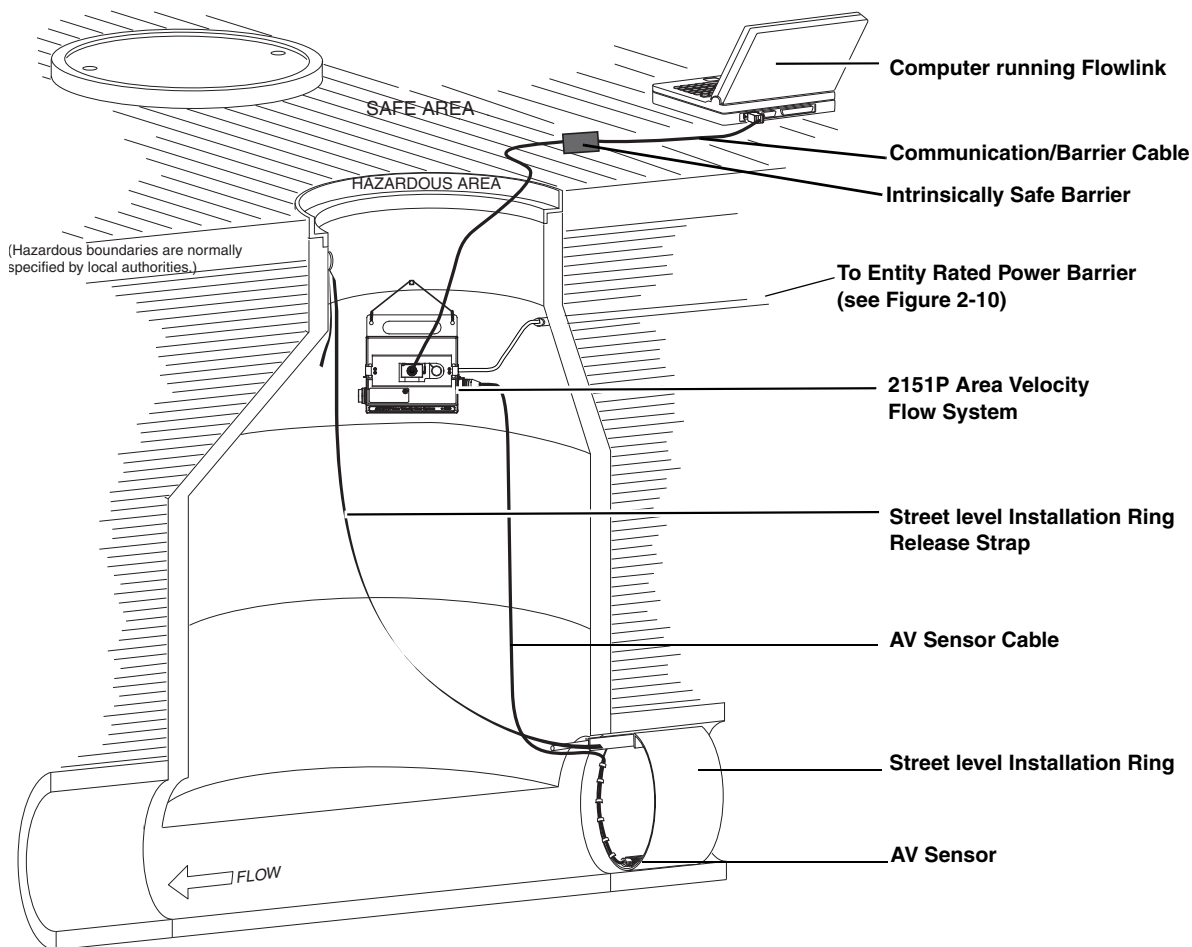
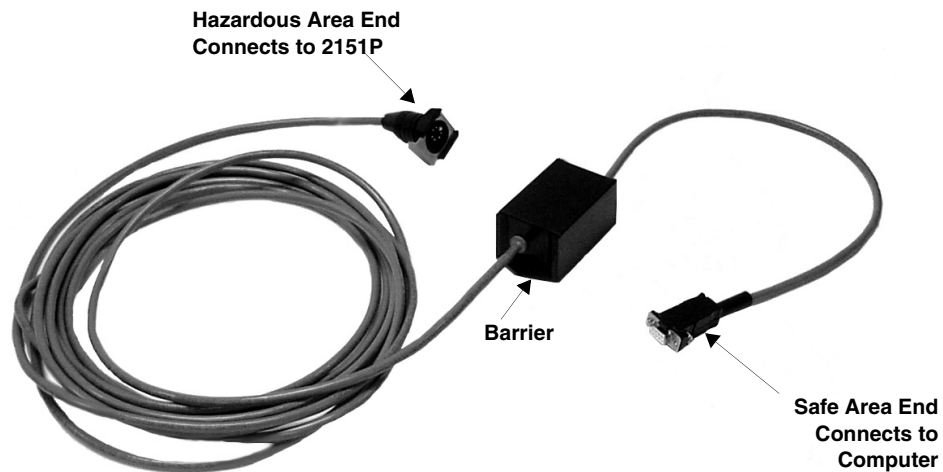
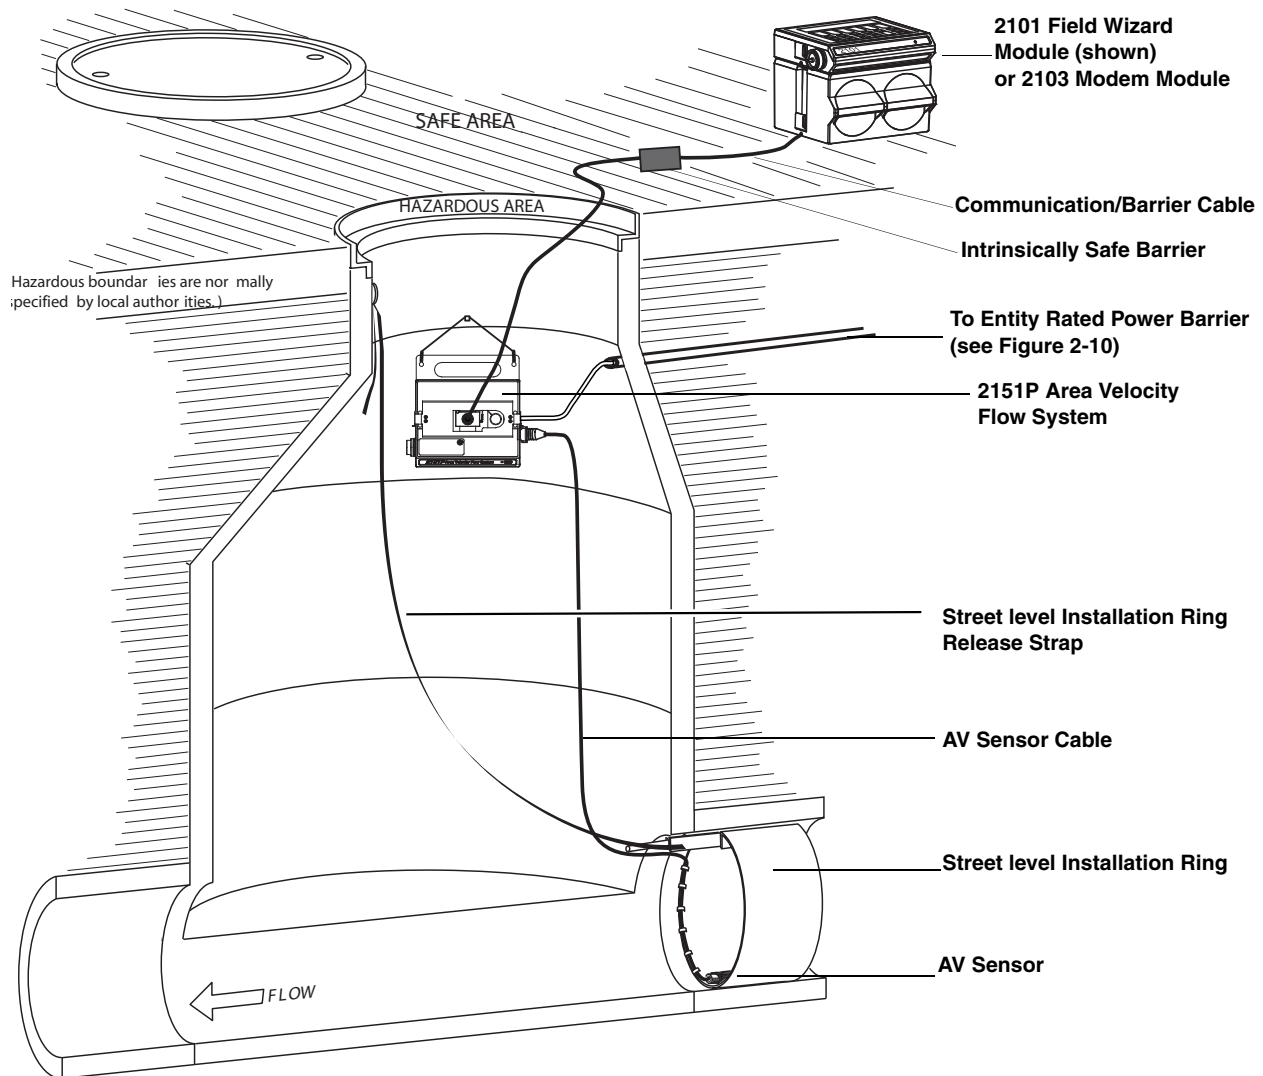
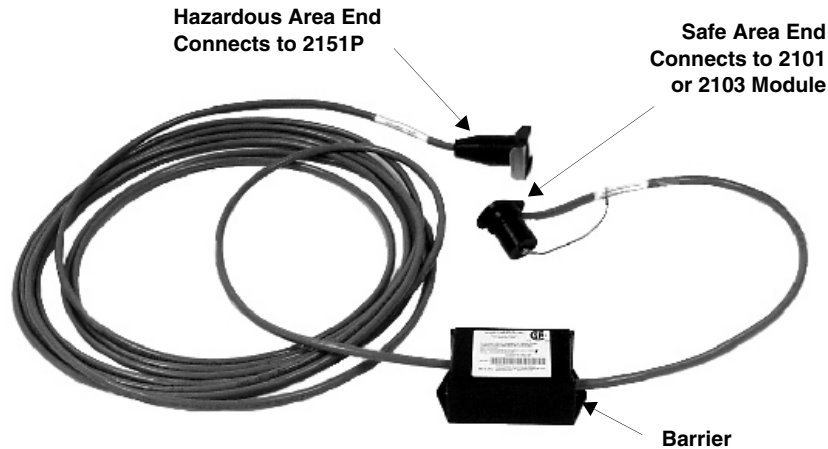

Figure 2-8 Typical Round-pipe Installation
Figure 2-9 Intrinsically Safe Communication / Barrier Cable For Connection to a Computer
Figure 2-11 Typical Round-pipe Installation
Figure 2-12 Intrinsic Safe Communication / Barrier Cable For Connection to a 2101 or 2103 Module
The 2151P has a communication connector on the top (see Figure 1-2). This provides one way that the 2151P can be connected to a laptop computer (see Figure 2-8) or an Isco 2101 Field Wizard or 2103 Modem (Figure 2-11) running Isco's Flowlink software.
4. Route the communication cable as shown in Figure 2-8, so that the communication barrier is in a safe area.
Figure 2-8 shows how the 2151P would be directly connected to a laptop computer.
When connecting the 2151P directly to a laptop computer, as shown in Figure 2-8, you must use a special communication cable (P/N 60-2004-153) that includes a communication barrier (Figure 2-9).
Figure 2-11 shows how the 2151P would be connected directly to a 2101 Field Wizard or 2103 Modem module.
When connecting to a 2101 or 2103, as shown in Figure 2-11, you must use a special communication cable (P/N 60-2004-201) that includes a communication barrier (Figure 2-12).